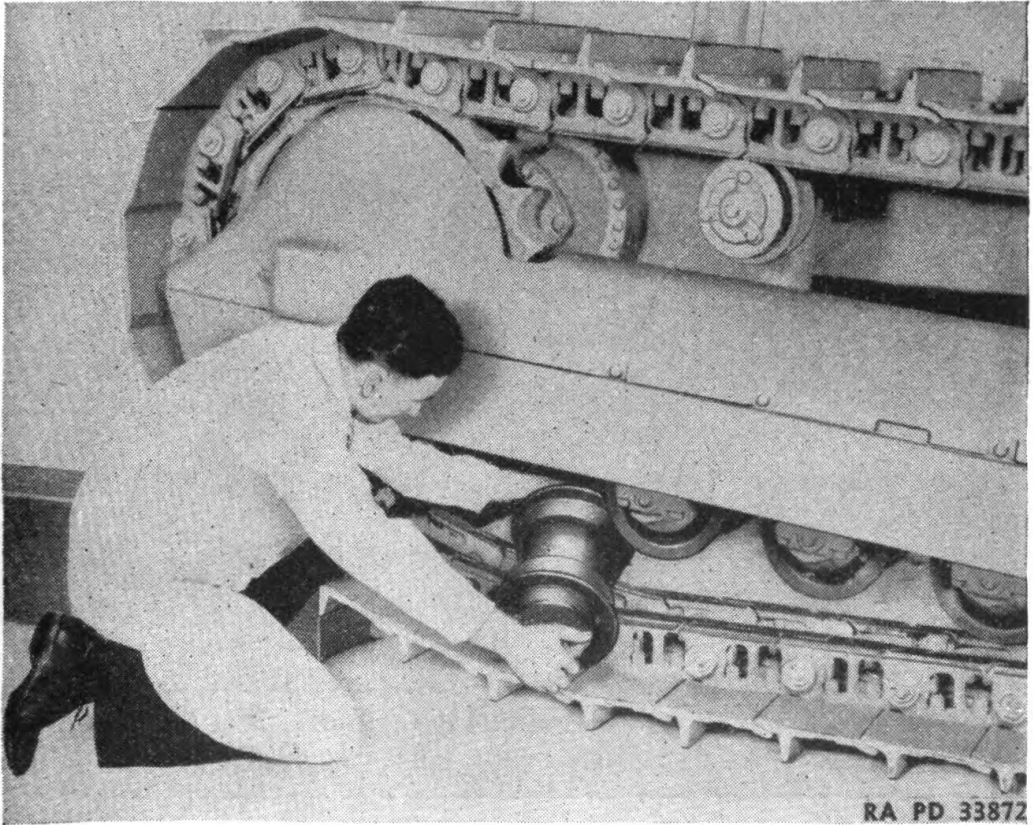

FIGURE 156.—Roller removal.
(2) The rollers can now be reached to determine the shaft or bushing wear or the end clearance.
c. Removal.—(1) Increase slack in the track by backing off the track adjustment. Then remove track roller guards. After doing this, the same method as described in *b* above can be used for roller removal (fig. 156). With the tracks on the blocks, a small jack can be used between the track shoes and the roller frame to aid in giving clearance. Remove the center roller first then roll the others toward the center where the most slack in the track exists.